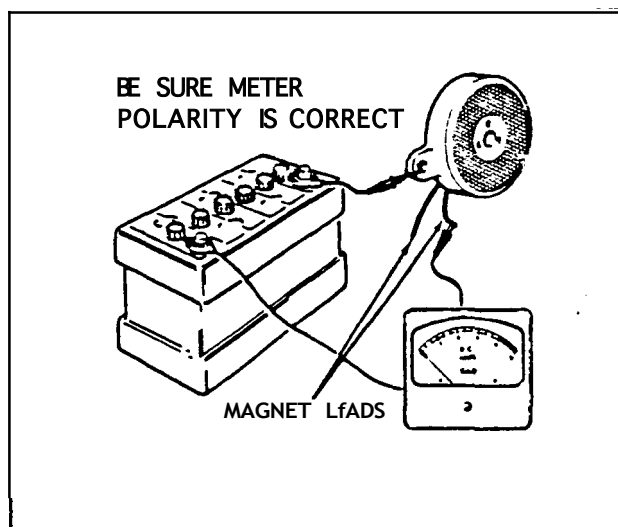

Fig. 3
- a. Remove magnet and connect as shown in Figure 3.